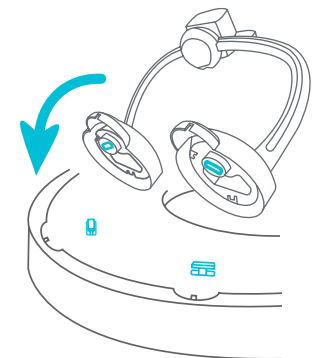

Fig. 6b
- All toys must be aligned with their single or double tab housings on the activity center tray (Fig. 6b). Set the toy base in alignment with the tabletop fitting. From underneath the tabletop push the lock up and turn it left to lock.